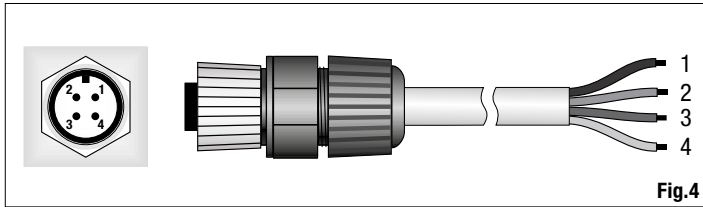

Fig.4
- The optional cable, ending with a connector by one side, is made in PTFE resistant to UV and is provided with 7 wires plus braid (screen), the diagram with the correspondence between cable colours and connector poles is the following (figure 4):